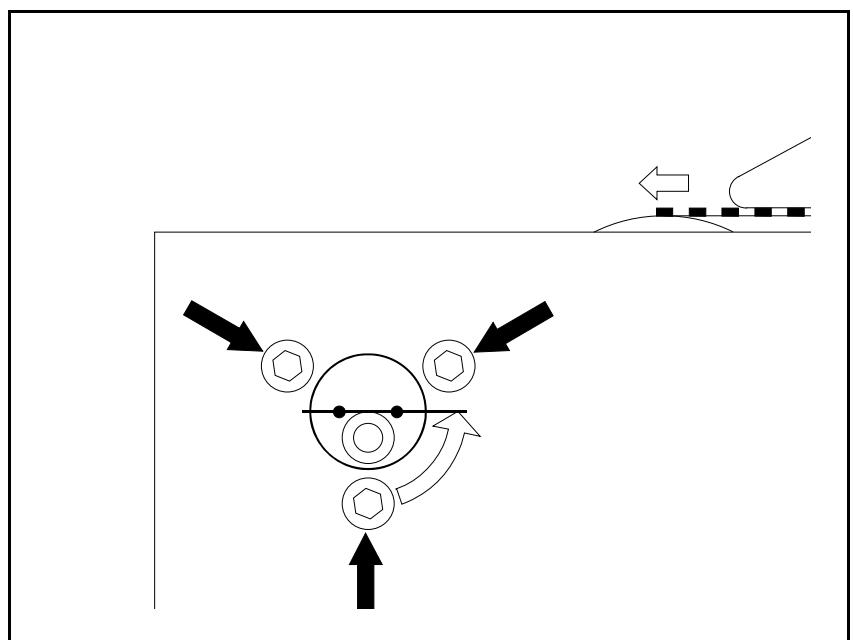

Figure 13-16. Magazine pick-up position, first feeder.
4. Adjust feeder 1 by loosening three screws, see Figure 13-16. Turn the eccentric disc with two holes as shown in the figure.
- Remove the magazine if inserted near the machine frame. Otherwise, it can be adjusted without being moved. If the eccentric disk is turned *counter-clockwise*, the pick-up position is moved forwards, see Figure 13-16.